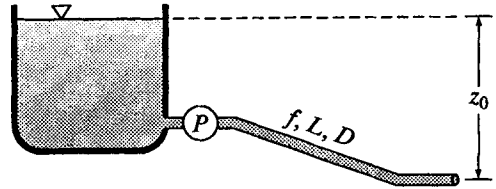

Figure P12.16
12.16 Figure P12.16 depicts a large reservoir being drained with a pipe system ($f = 0.025$, $L = 2000$ ft, $D = 9$ in, $z_0 = 45$ ft). The flow rate is 3.5 cfs when the pump is initially rotating at 180 rpm. If the pump speed is increased instantaneously to 220 rpm, determine the flow rate as a function of time. Assume that the head h_p developed by the pump is proportional to the square of the rotative speed; that is $h_p \propto n^2$.